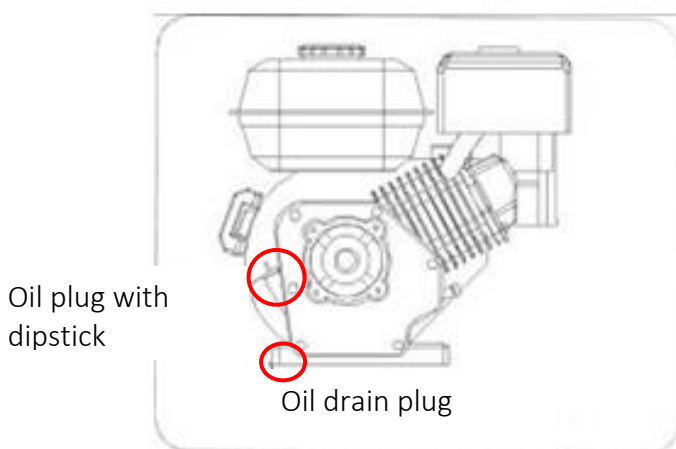

Fig. 40
2. Unscrew the oil plug with the dipstick and wipe the dipstick. See Figure 40.
1. Locate the oil drain plug, see Figure 40.
3. Clean the area around the oil drain plug, see Figure 40.